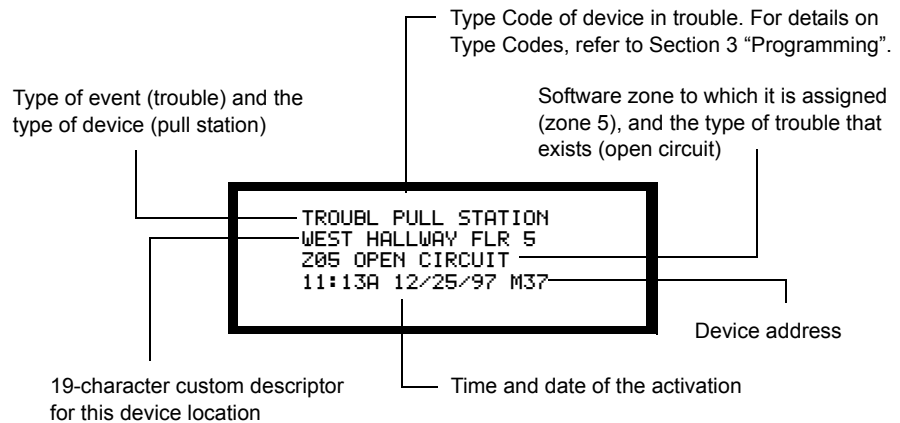

Figure 101 Sample Display of a Trouble Message
- Sends a trouble message (see Figure 101 for a sample message) to the History buffer, to installed Terminal Mode LCD-80s, and to installed printers.
Figure 101 shows a sample trouble message for a module in trouble that appears on LCD display during trouble operation.
For example, in Figure 101, the M37 address represents module number 37. If the device in trouble was a detector, the “M” of address M37 is replaced with a “D”.